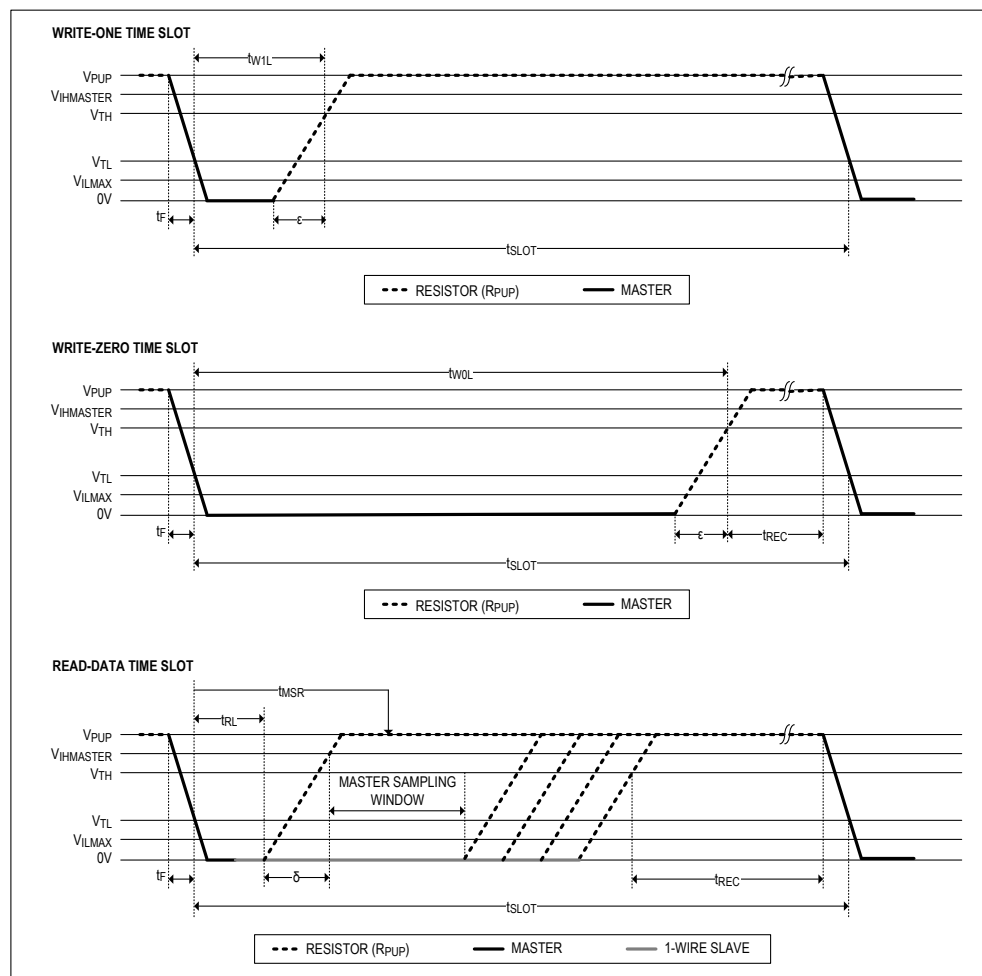

Figure 5. Read/Write Timing Diagrams
- Note 15:** System requirement. ϵ in Figure 5 represents the time required for the pullup circuitry to pull the voltage on IO up from V_{IL} to V_{TH} . The actual maximum duration for the master to pull the line low is $t_{W1LMAX} + t_F - \epsilon$ and $t_{W0LMAX} + t_F - \epsilon$, respectively.
- Note 16:** System requirement. δ in Figure 5 represents the time required for the pullup circuitry to pull the voltage on IO up from V_{IL} to the input-high threshold of the bus master. The actual maximum duration for the master to pull the line low is $t_{RLMAX} + t_F$.
Data communication with the DS28E38 takes place in time slots that carry a single bit each. Write time slots transport data from bus master to slave. Read time slots transfer data from slave to master. Figure 5 illustrates the definitions of the write and read time slots.